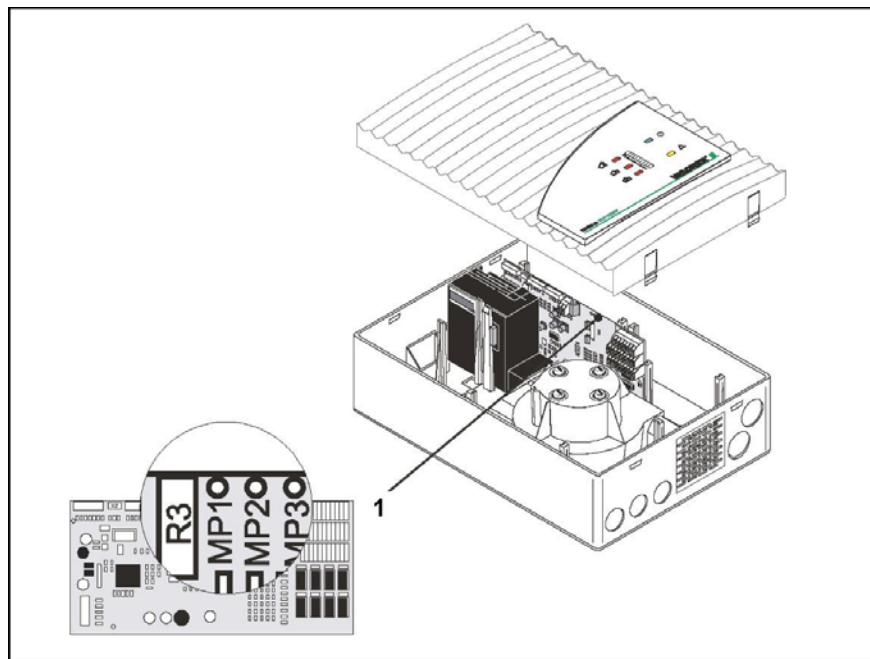

Fig. 7.2: Air pressure-dependent calibration of the airflow sensor
4. Connect the multimeter to the measuring points MP2 (+) and MP3 (-) (see **Fig. 7.2**). Note the polarity. On the measuring device, select the "V-DC" range. The voltage at the measuring points is 1.2 V by default.